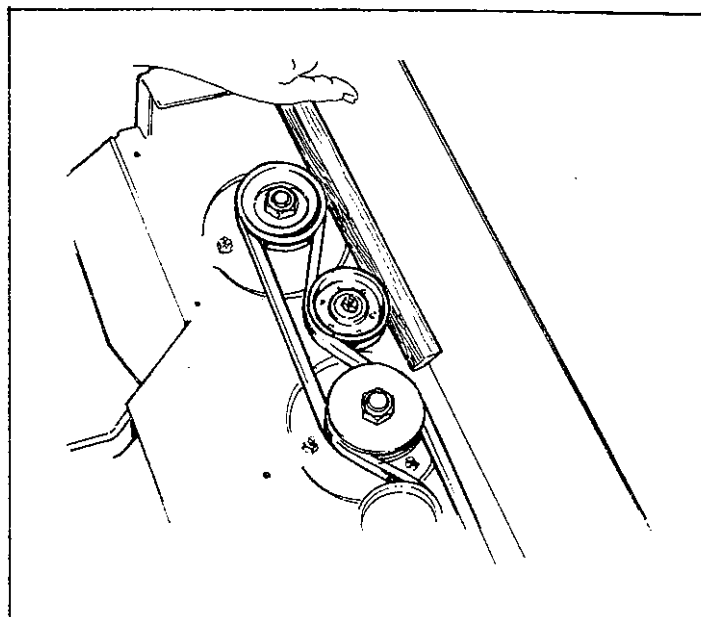

FIGURE 2
4. To tighten the belt for the left idler pulley, place a piece of wood between the pulley and the front panel and adjust for desired tension. See Fig. 2.